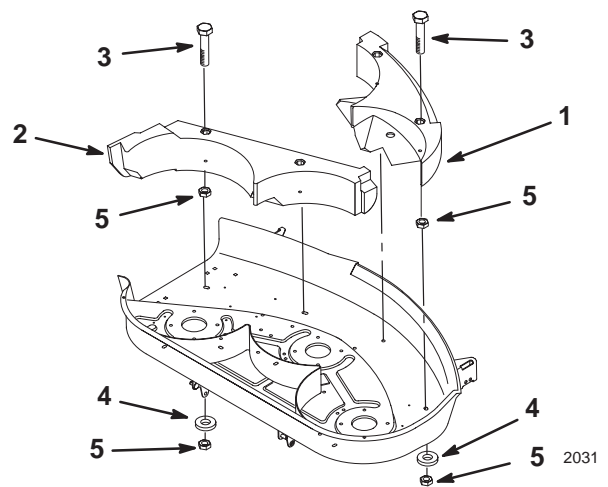

Figure 47
3. Secure the baffle to the mower with 1-1/4 in. bolts (insert them through the baffle and outside the deck) and 5/16 in. locknuts (Fig. 47).
2. Remove the locknuts from the right side baffle (Fig. 47).